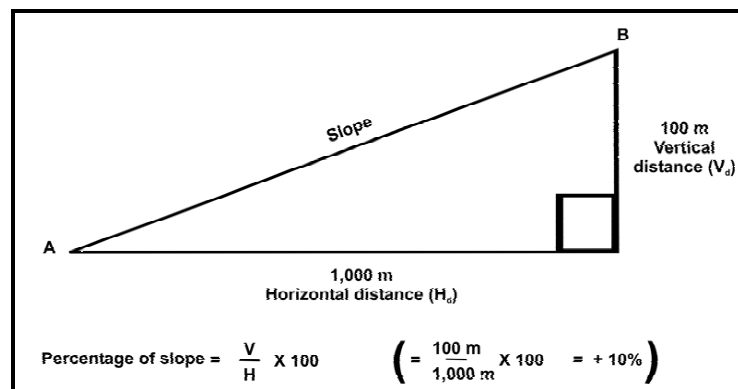

Figure 14-5. Formula for slope percentage.
- Slopes (gradients) of 7 percent or greater (see Figures 14-5, 14-6, and 14-7).